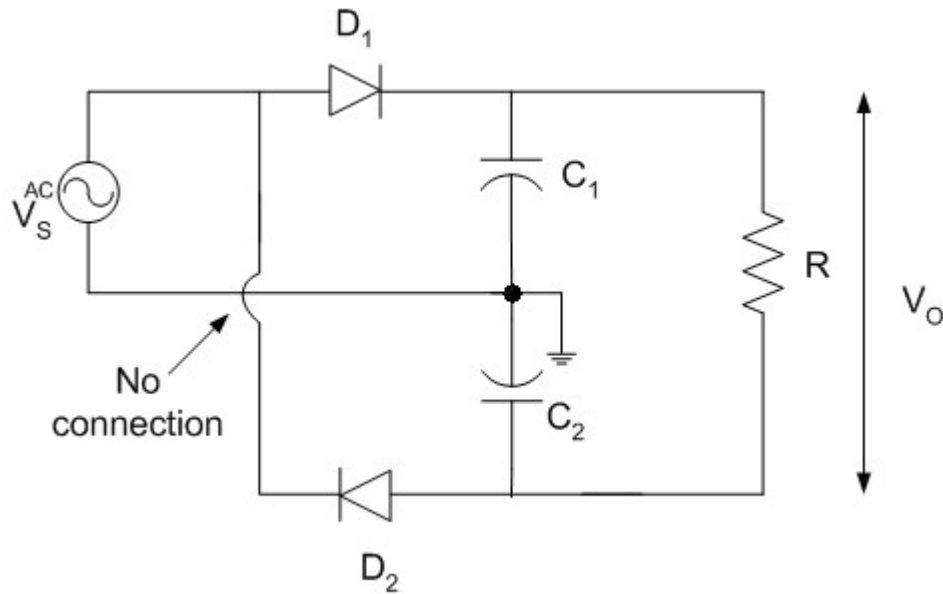

Fig. 3.13 Voltage multiplier
The circuit in Fig. 3.13 is a voltage multiplier. The circuit operation is similar to that of a full wave rectifier, when the capacitor voltages are superimposed.
1. Construct the circuit as shown in Fig. 3.13. Adjust  $V_S$  to 20 Vpp Sine Wave at 1kHz.